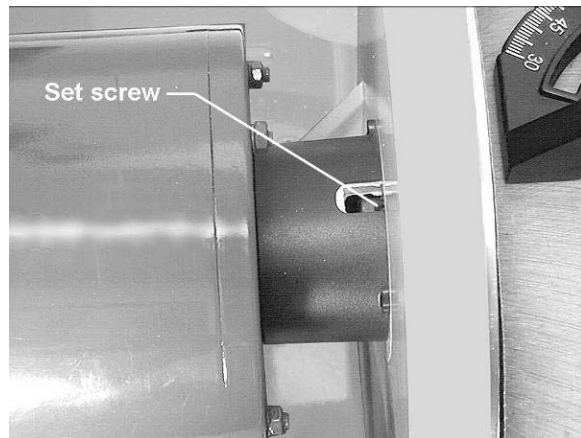

Figure 15
3. Rotate the disc until the set screw is accessible through the opening behind the disc guard. See Figure 15. You may need to loosen the socket head cap screws (see Figure 4) on the guard and shift it forward in order to clear the set screw.